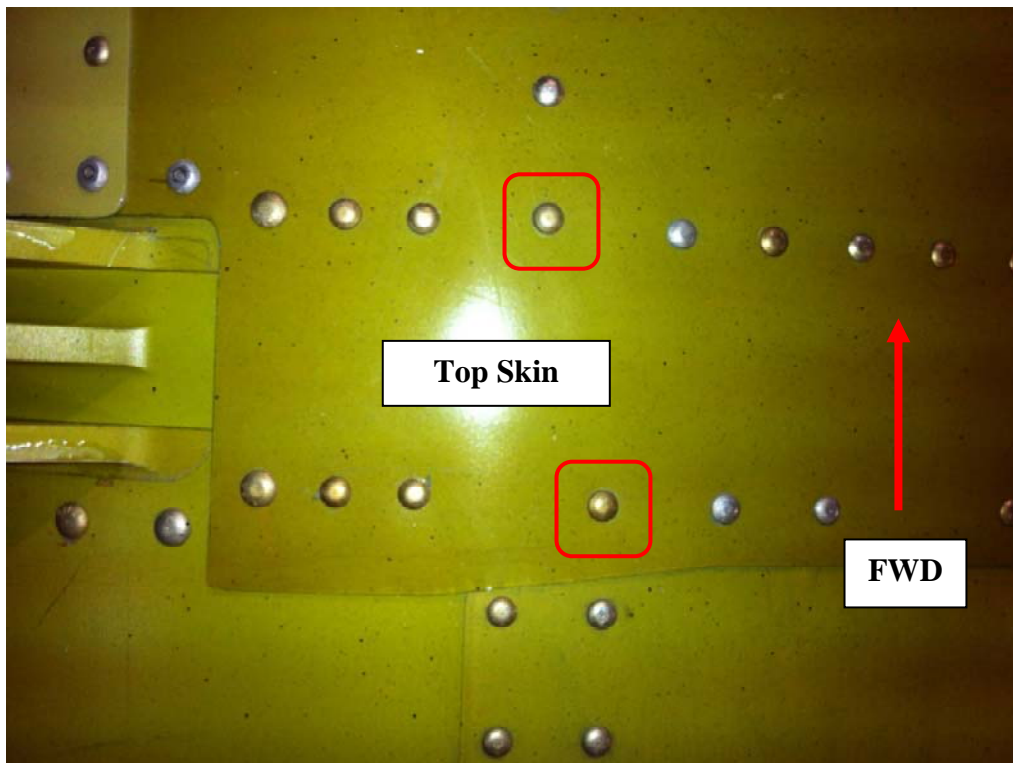

Figure 5-6: View Looking Down on Hi-Lok Locations
8. Up-size the holes identified in **Figure 5-6** to 0.1610" – 0.1640" (#24 drill bit and 0.1610 reamer).